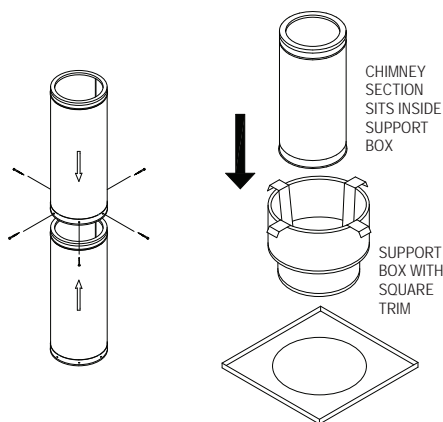

Figure 9
**8. Assemble Chimney Sections:** Lower the female end of the first Chimney Section in the Support Box (**Fig 9**). Sheet metal screws are not required between the first Chimney Section and the Support Box. For each additional Chimney Section use the (6) Sheet metal screws provided to make a secure connection between the chimney sections (**Fig 9**). Do not penetrate the inner liner of the chimney.